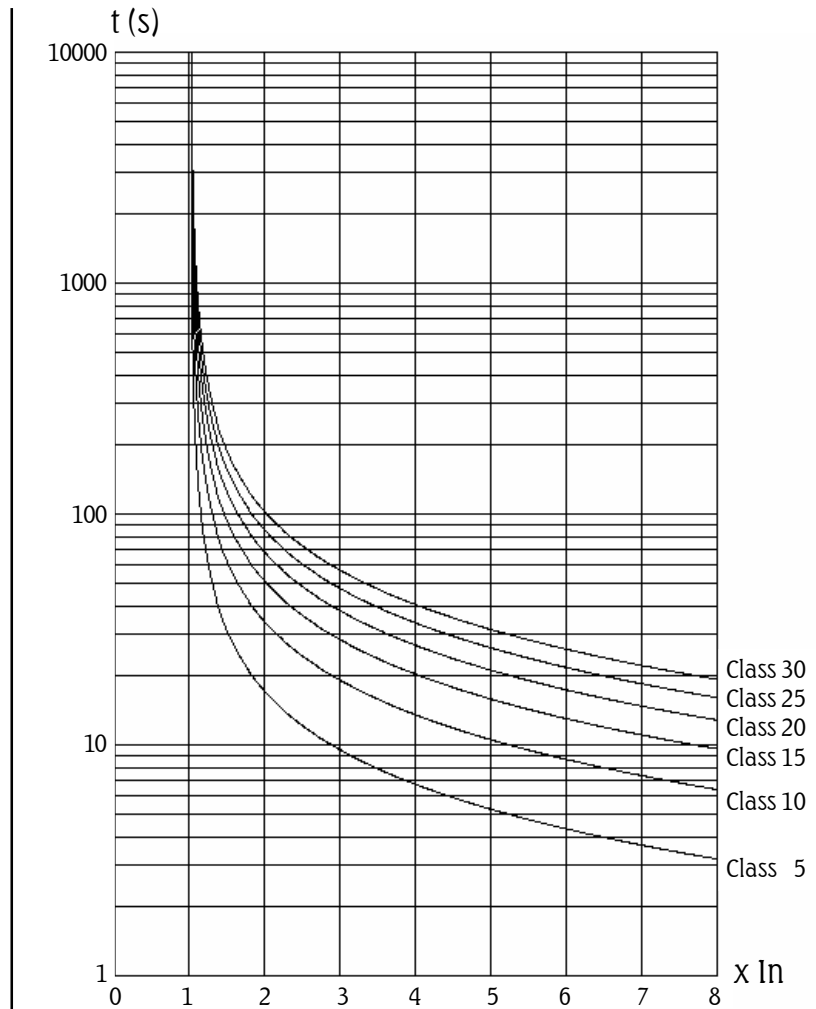

Figure 6.10 - Thermal Classes for Cold Motor Protection
- If a Service Factor different from 1.00 is used, the nominal current for the chart (figure 6.10) has to be corrected by the S.F.. For example: a motor of $I_n=50A$ and $S.F.=1.15$ has $1 \times I_n=57.5A$.
1) In the cold chart Figure 6.10, we can find the minimum required Thermal Class that allows motor start with reduced voltage: